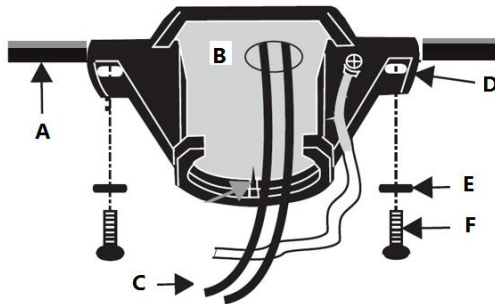

Fig. 9
Pass the power supply wires (C) from the ceiling outlet box (B) through the center of the ceiling mounting bracket (D). Install the ceiling mounting bracket (D) on the outlet box (B) with the mounting screws (F) provided with the outlet box and washers (E) provided with fan. **Fig. 9**